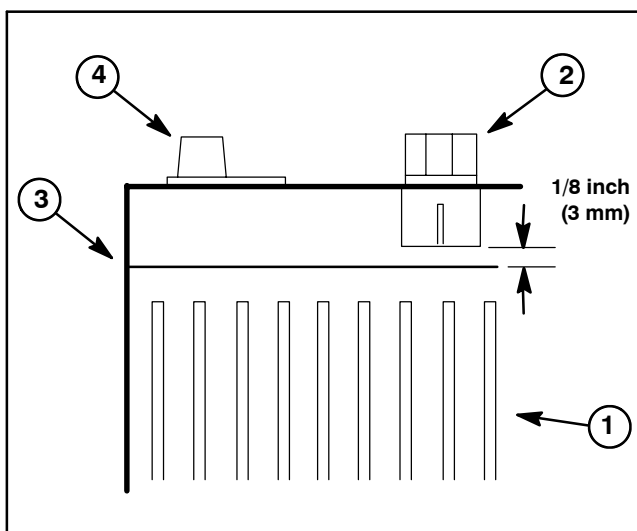

Figure 45
Make sure to have the battery cell plates covered with electrolyte before charging the batteries (Fig. 45). Periodically (at least every 50 operating hours) check electrolyte level in the batteries and add distilled water to ensure proper charging and the best battery performance and life.
6. Check the electrolyte level in each cell. If the level is below the tops of the plates in any cell, add just enough **distilled** water to the cell to cover the plates. Replace filler caps and charge the battery. After charging, check electrolyte level in all cells and add **distilled** water until the level is 1/8" (3 mm) below the bottom of the fill well (Fig. 45).